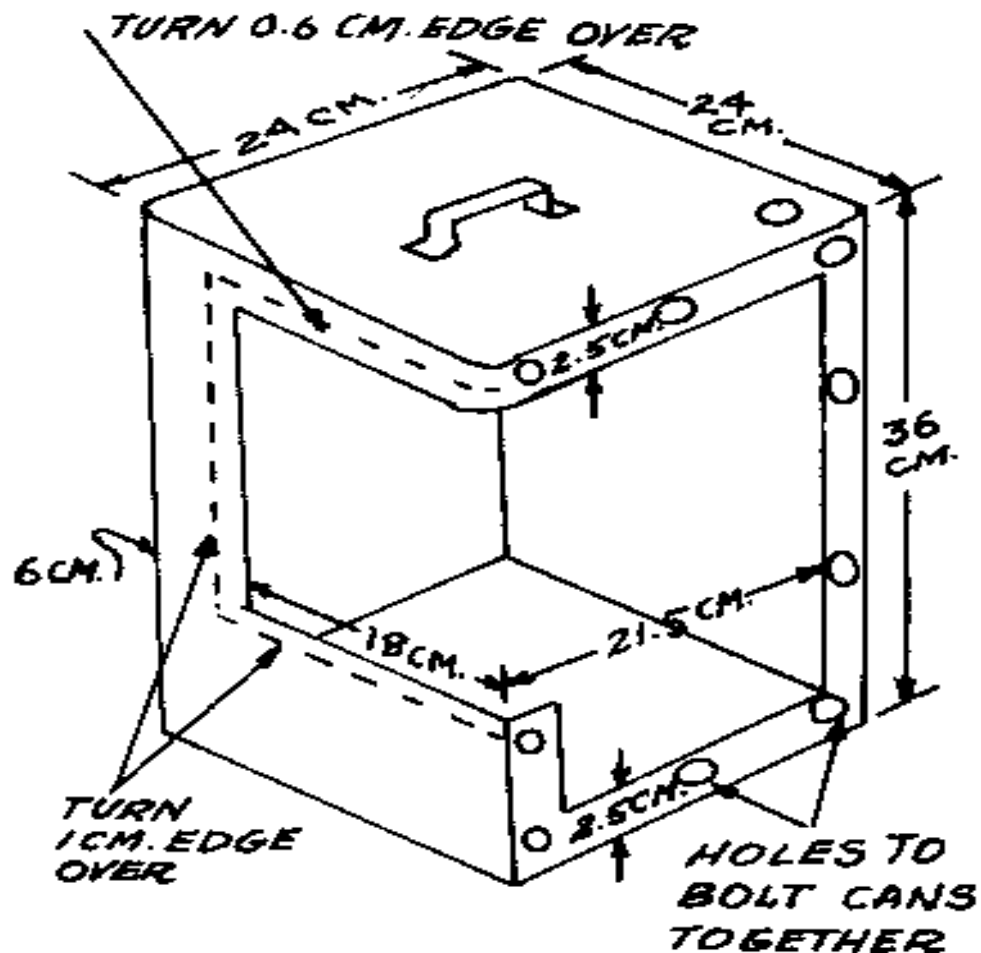

FIGURE 2. CUT ONE 5-GALLON CAN AS SHOWN ABOVE. THE OTHER CAN IS CUT THE REVERSE OF THE ONE HERE.
**Mark the two 5-gallon cans for cutting (see Figure 2), making sure that the
knife, keeping the cut-out sections as undamaged as possible. Fold the edges of the oven-door openings back 1cm (3/8") (see Figure 2).
With the nail, punch 5mm (3/16") holes around the opening in the side of the can to be used for the left hand section of the oven (see Figure 2). Place the second can against the one just punched and mark the holes with the nail. Punch holes in the second can. Bolt the cans together, using 10 stove bolts.